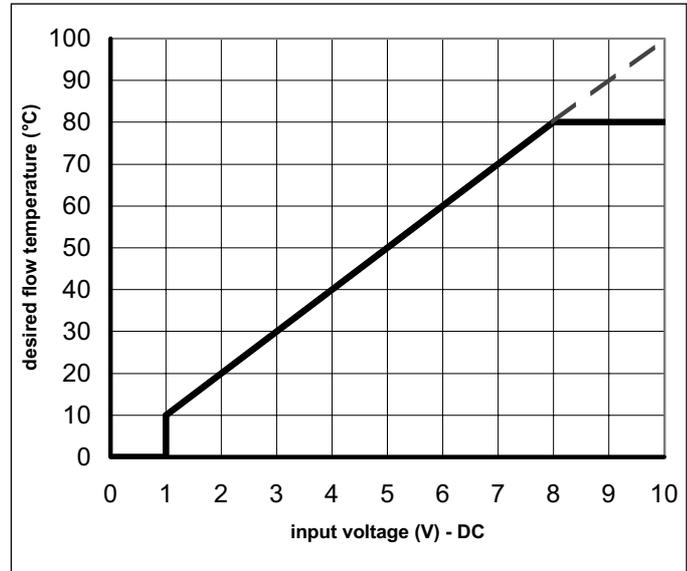

Fig. 18 Temperature control via analog (0-10 Volt) signal
- Temperature based (20 to 90 °C) set the  $\boxed{X}$  value of the boiler control operation parameter  $\boxed{R_1}$  to  $\boxed{4}$ . To set the ratio between voltage and the desired flow temperature, see *par. 7.6.6* and *Fig. 18*.